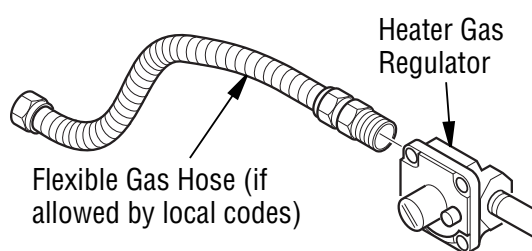

Figure 10 - Attaching Flexible Gas Hose to Heater Gas Regulator
1. Apply pipe joint sealant lightly to male threads of gas fitting (provided). Connect approved flexible gas hose to inlet side of gas control (see **Figure 10**).